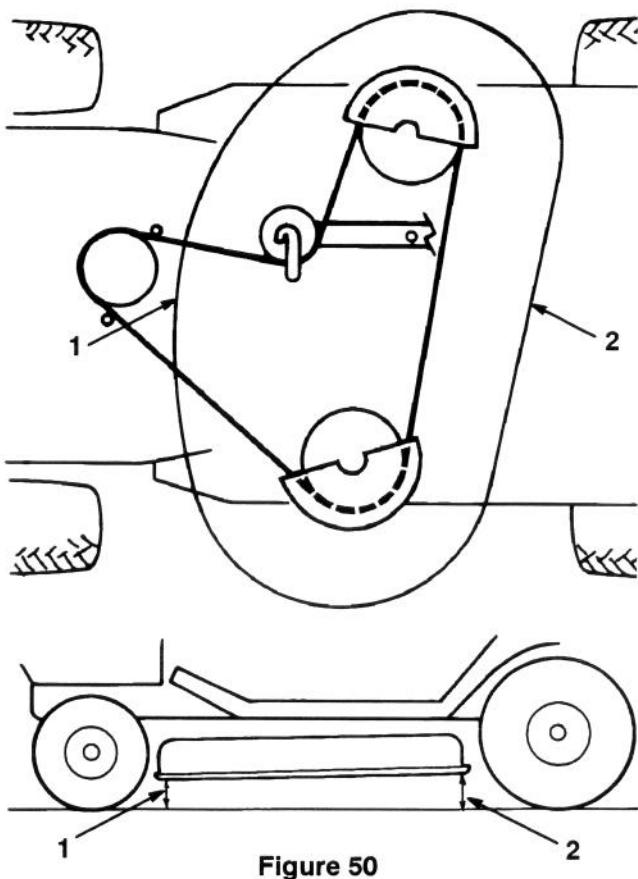

Figure 50
5. Check the front to rear slope by measuring between the bottom of the mower (front center and rear center) and the flat surface (Fig. 50). If the front of the mower is more than $5/8$ " (15.875 mm) lower than the rear of the mower, an adjustment is required; refer to steps 6, 7, 8 and 9.